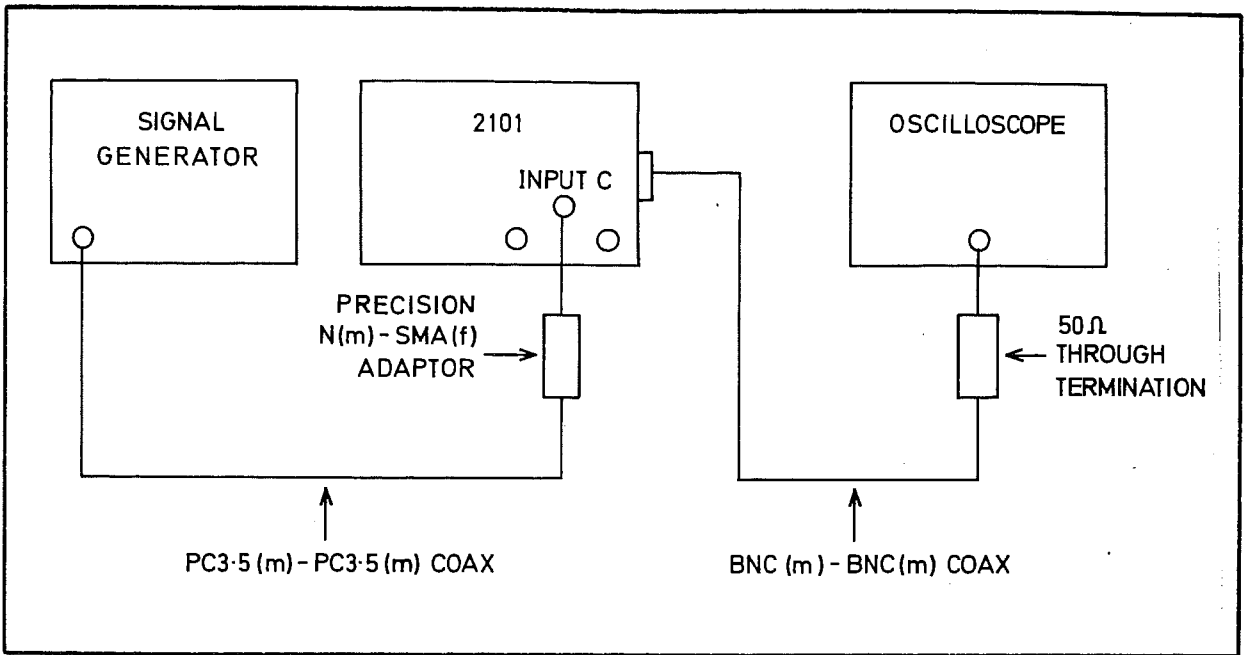
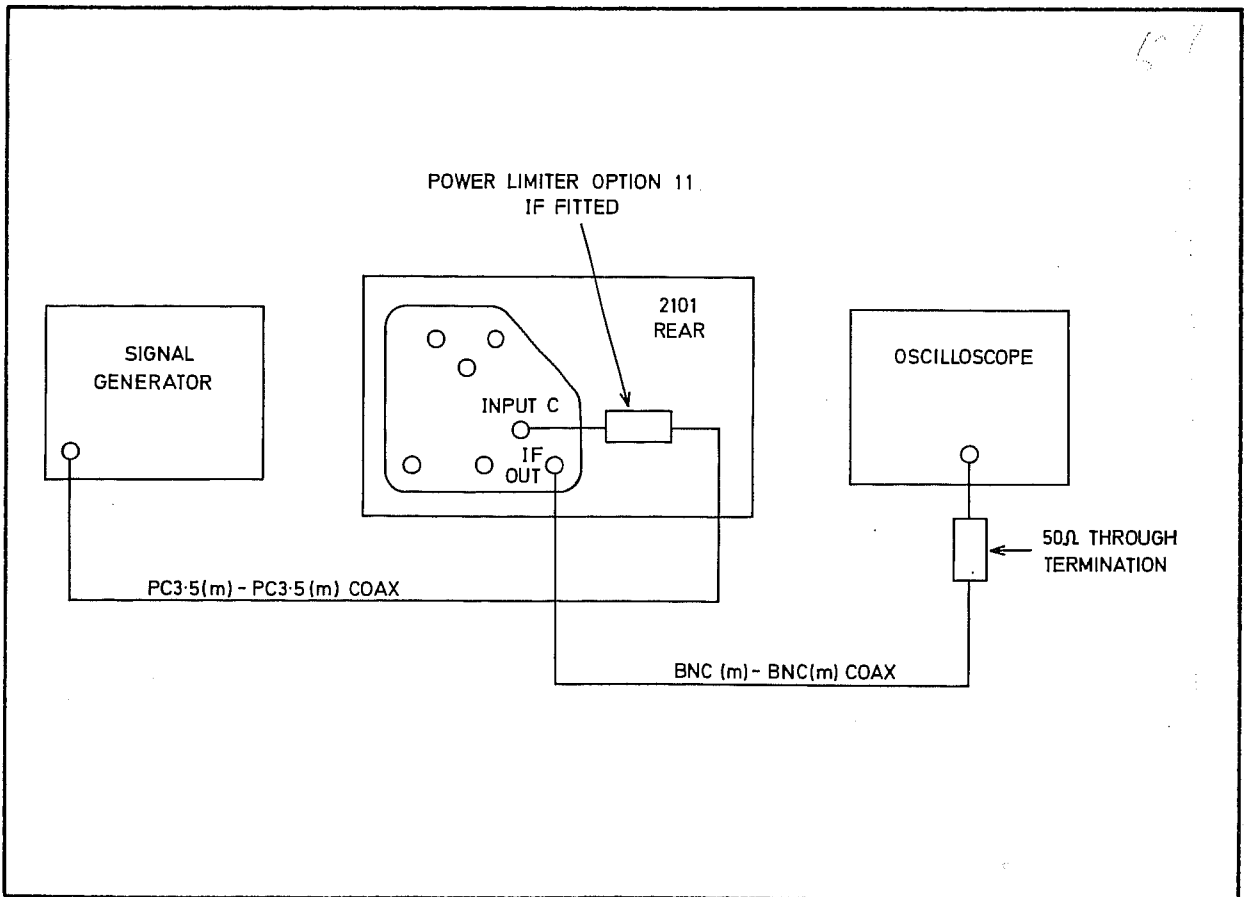

Fig. 7.26 Connection for IF Output Level PVP
Fig. 7.27 Connection for IF Output Level PVP with Option 01
91 (1) Connect the equipment as shown in Fig. 7.26 (Fig. 7.27 if Option 01 is fitted).
(2) On the 2101 select SF41 and press: